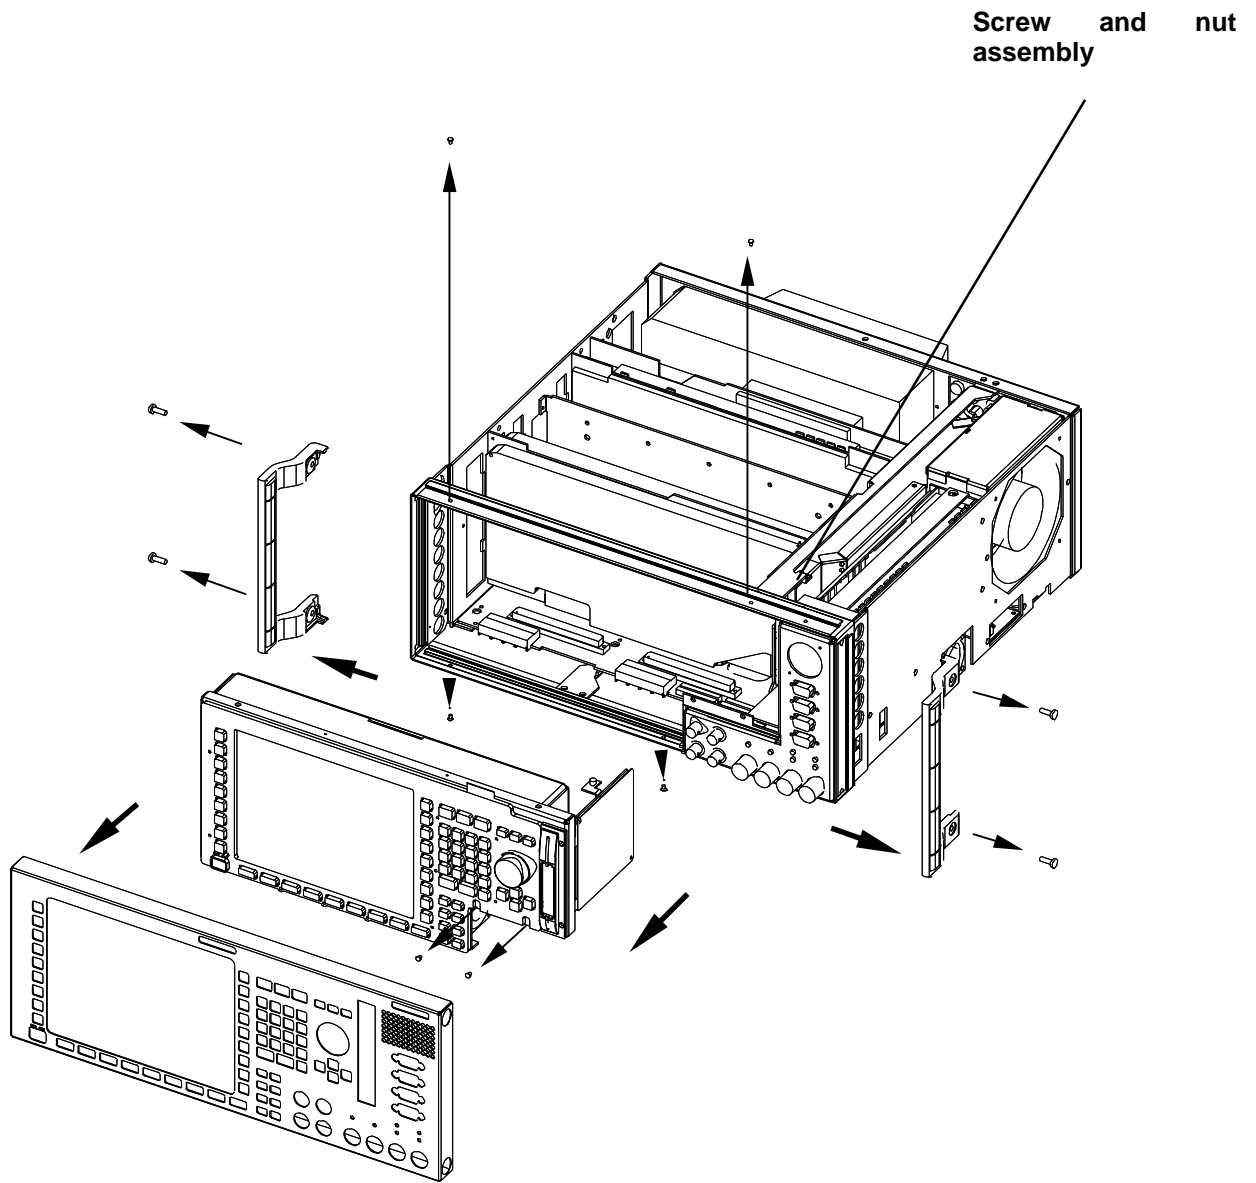

Fig. 2
- 1.9 Push the front module to the front by slightly exerting pressure at the back (Fig. 2).